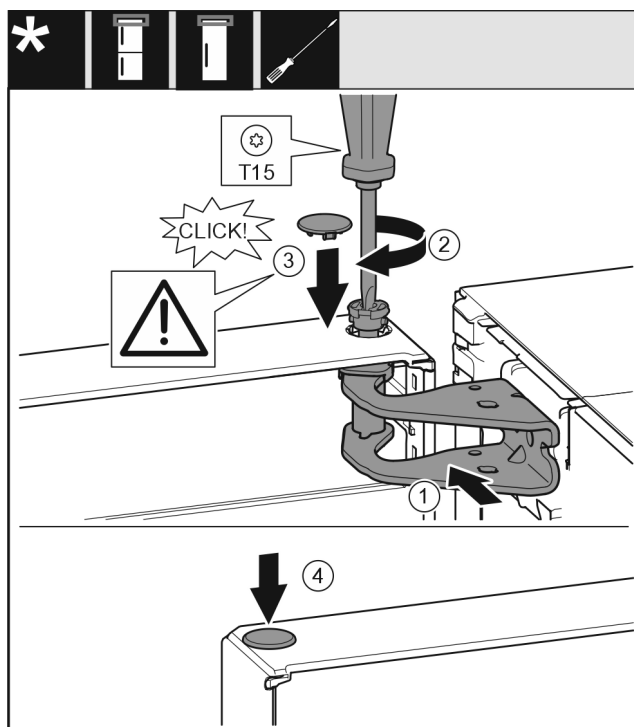

Fig. 20
- ▶ Align the top of the door with opening in the bearing bracket. Fig. 20 (1)
- ▶ Insert the bolt and tighten with a T15 screwdriver. Fig. 20 (2)
- ▶ Fit the protective cover to protect the door: Insert the protective cover and check that it lies flush on the door. If not, insert the bolt fully. Fig. 20 (3)
- ▶ Insert the plugs. Fig. 20 (4)